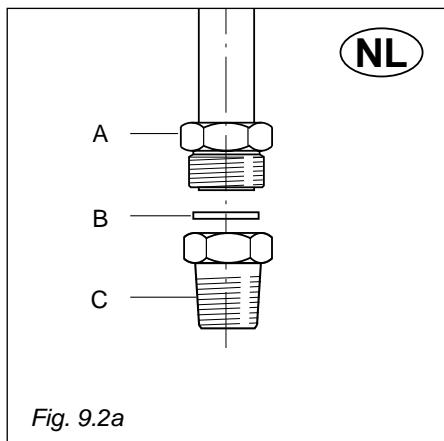

Fig. 9.2a
**The fitting (fig. 9.2a - 9.2b) is made up of:**
The gasket "B" (fig. 9.2a - 9.2b) is the element that guarantees the seal in the gas connection. It is recommended that it be replaced whenever it shows even the slightest deformation or imperfection.